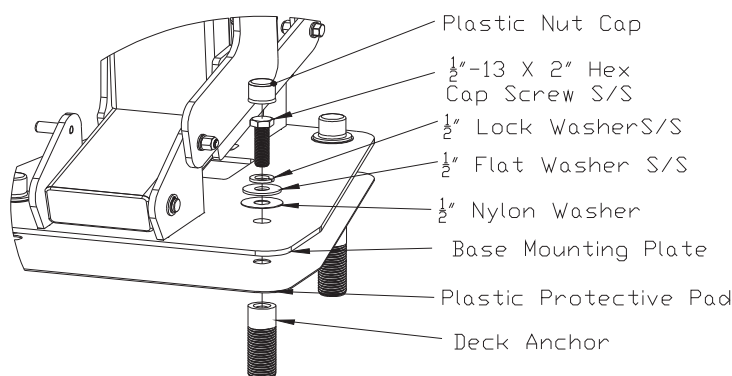

Figure 3. Mounting Hardware
6. Locate the deck mounting hardware in the accessory carton and use the hardware to fasten the ML300 to the anchors as shown in **Figure 3**. Tighten the bolts down until the lock washers are fully compressed. **Note: Anti-seize compound must be used on the stainless steel mounting bolts to prevent seizing in the deck anchors.**